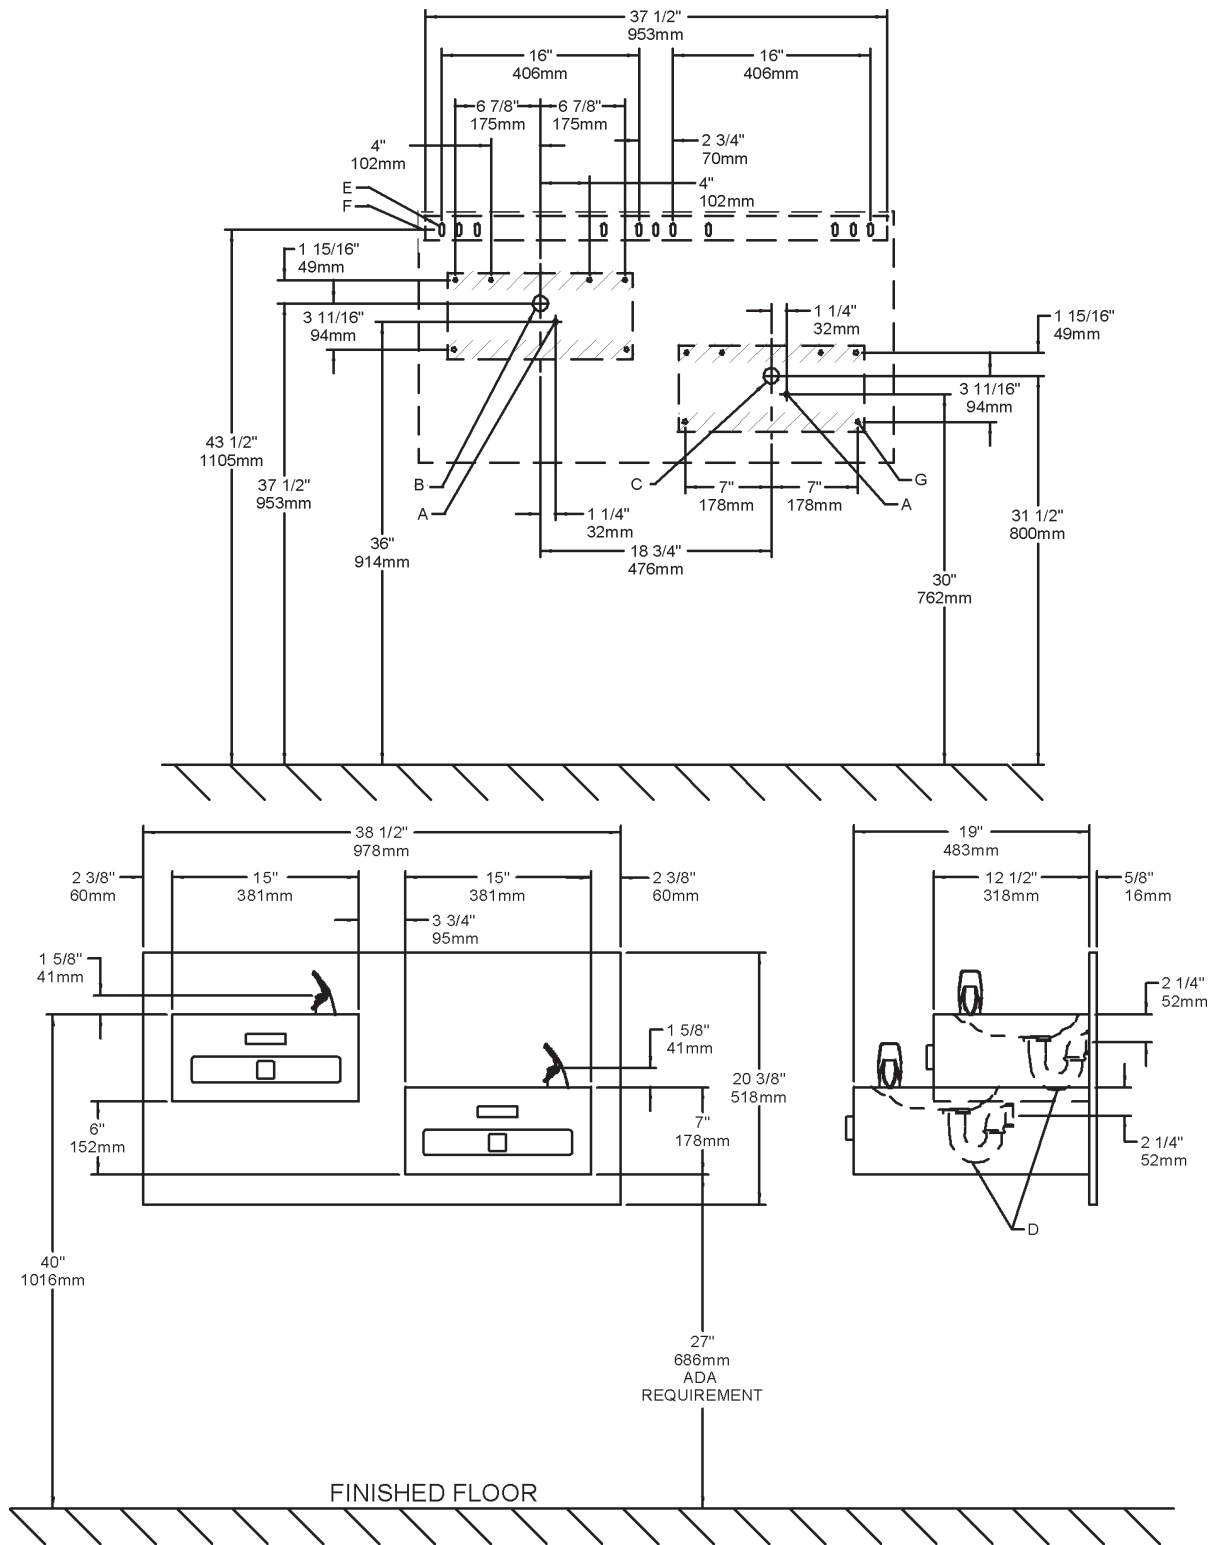

FIG. 3
1. **Wall** should already be framed for the fountain using the positioning dimensions shown in Figures 3, 4, 5, or 6. Shown dimensions pertain to installation location (framing must support up to 300 lbs. weight). These dimensions are required for compliance with ANSI Standard A117.1/ADA requirements.
2. **Install** rough-in plumbing as shown in Figures 3, 4, 5, or 6. Connecting lines to be unplated copper and thoroughly flushed to remove all foreign matter before connection to fountain. Run the supply water inlet line through the back panel. Install service stop (not provided). Turn on supply water and flush thoroughly.